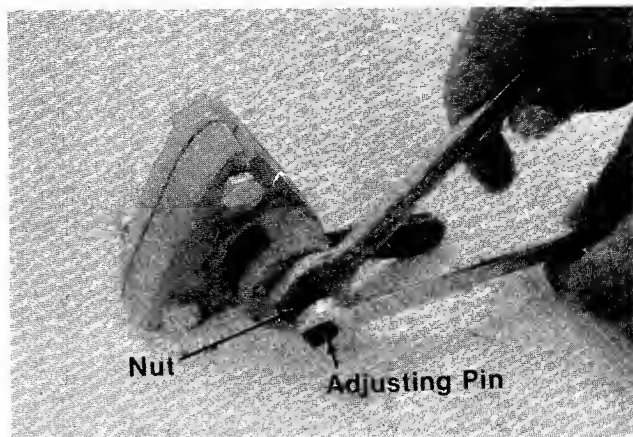

FIGURE 22.
- A. Loosen the nut on the disc brake. See figure 22.